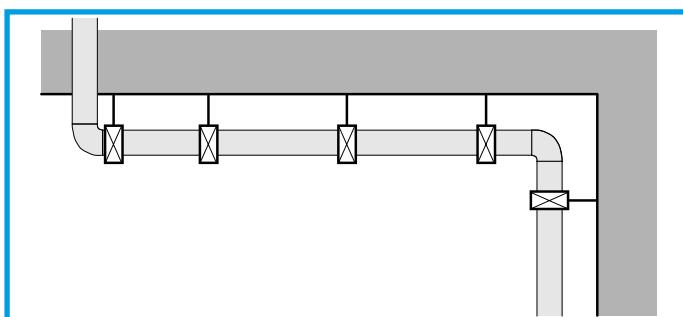

Figure 4 – Free installation
- For pipeline stretches containing changes of direction or lateral branches, always provide fixed points connected with the fittings (Figure 4). Expansion must only affect the pipe and not the fittings.